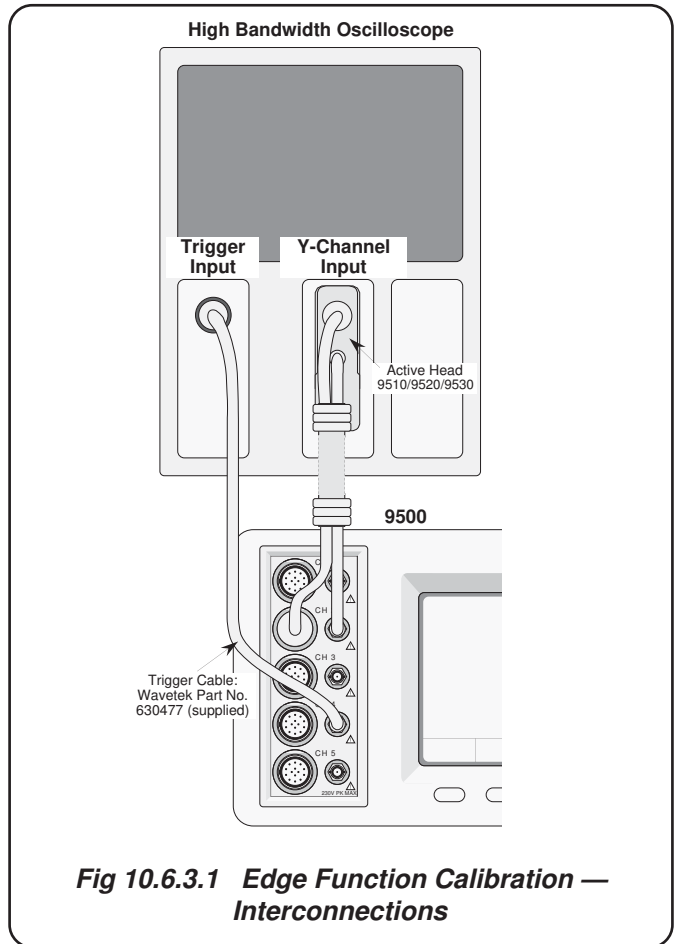

Fig 10.6.3.1 Edge Function Calibration — Interconnections
Ensure that the 9500B is connected to the Oscilloscope as shown in *Fig. 10.6.3.1*, and that both instruments are powered on and warmed up.
1. Ensure that the 9500B is connected to the oscilloscope as shown in *figure 10.6.3.1.* and that both instruments are powered on and warmed up.
1. Ensure that the 9500B is connected to the oscilloscope as shown in *figure 10.6.3.1*, and that both instruments are powered on and warmed up.